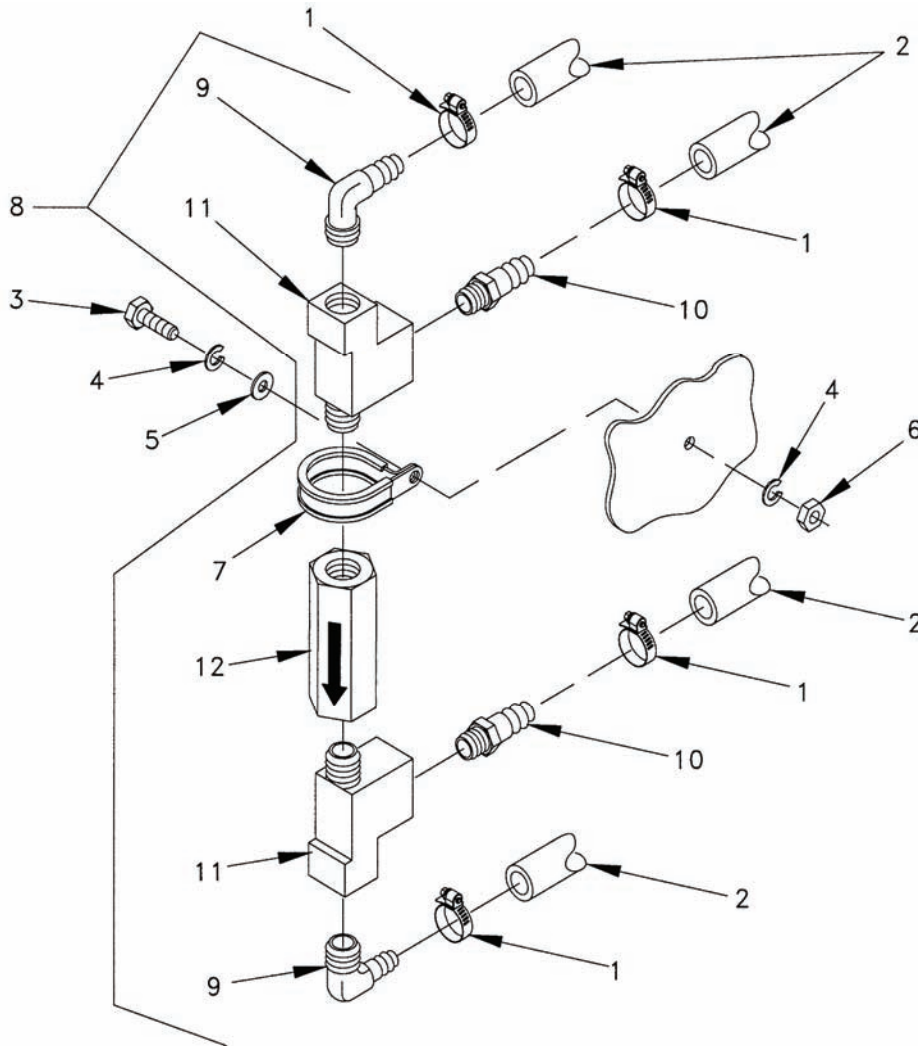

Figure 6-21. Bypass Valve Maintenance (MEP-804B/MEP-814B).
- b. Loosen hose clamps (1, Figure 6-21) and tag and disconnect four coolant hoses (2) from bypass valve assembly (8). Be sure to use a suitable container to catch coolant from hoses.
- c. Remove screw (3), two lock washers (4), washer (5), nut (6), clamp (7), and bypass valve assembly (8). Drain any coolant from lines into a suitable container. Discard lock washers (4).